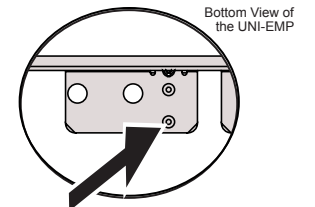

Figure 2
- 2 Use four (4) M4 x 8mm Lock-It™ security screws to attach the UNI-EMP to the inside bottom of the GearBox™ (Figure 2).